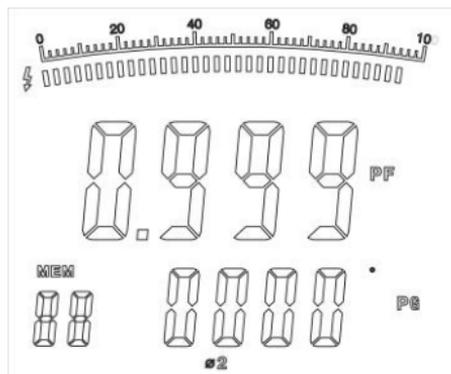

Figure 19
Then press **SEL** again to choose the second phase, see figure 19.
- Press **SEL** to choose the second phase , see figure 19.